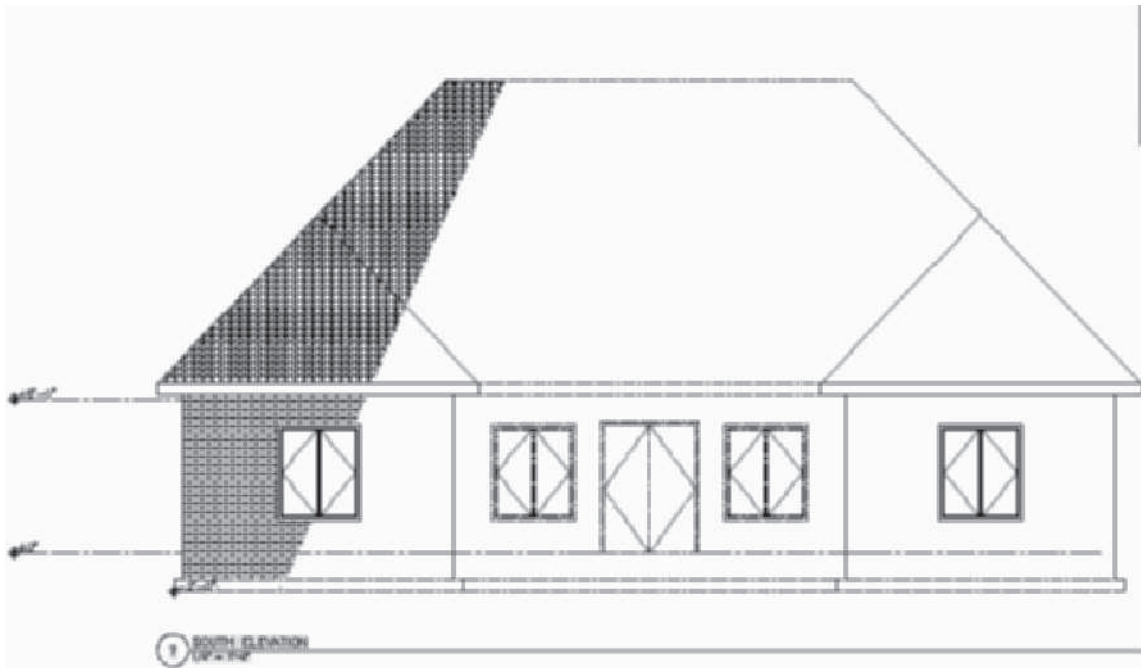

FIGURE 12.80 The model space view of the South Elevation
35. Click the Views tab of the Project Navigator. Expand the Model, double-click, the **South Elevation** of the Model View drawing to view the revised elevation as shown in Figure 12.80.